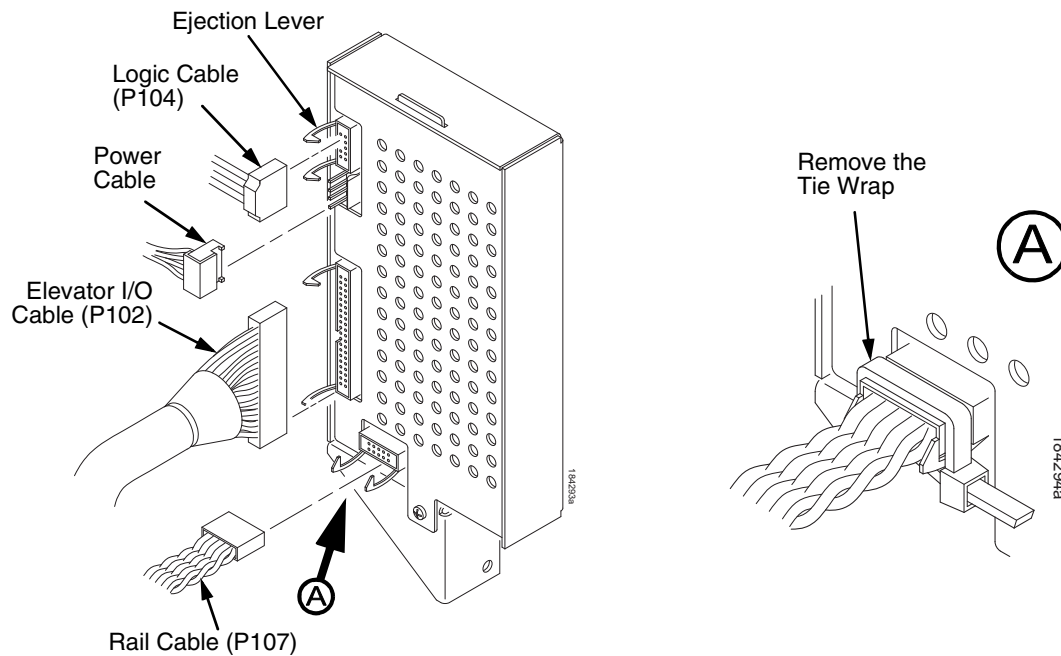

Figure 78. Removing Cables from the Stacker Control Panel
14. Remove four cables from the stacker control panel, and remove the stacker control panel. (Figure 78.)